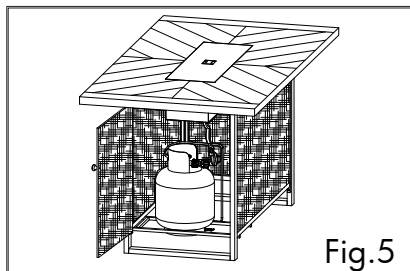

Fig.5
- 2 - Put the cylinder into the cylinder rack. See Fig 5.